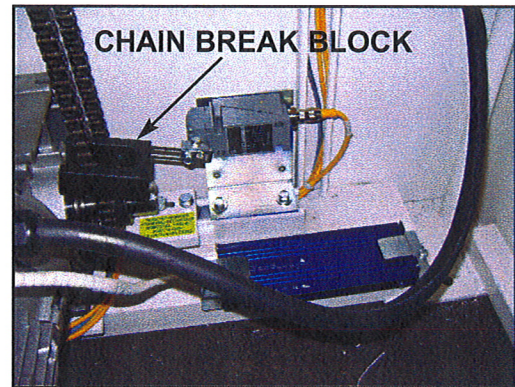
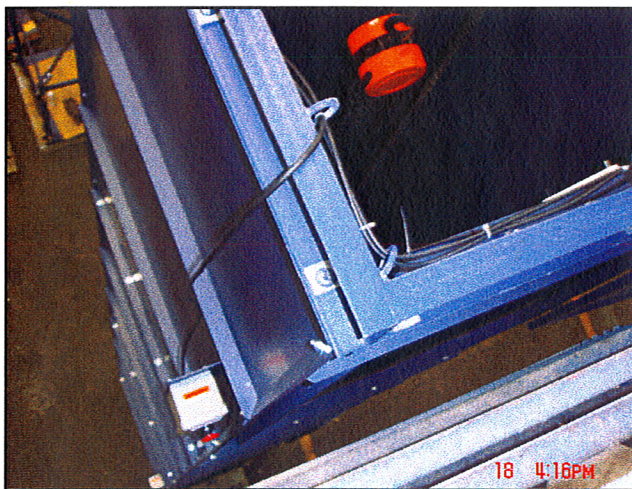
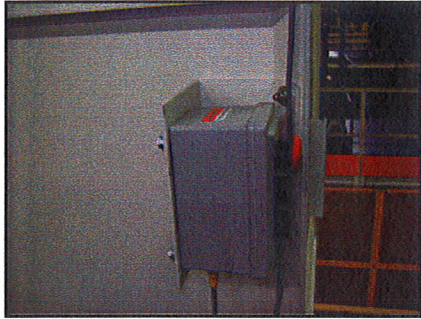

Figure 13
Figure 16
Figure 17
3. Mount push button stations if removed for shipping. See Figure 13, page 17, Figure 16, page 18, and Figure 17, page 19.
3. Make sure chain break block does not hit reducer before actuating. See Figure 13.
10. Attach push button brackets to one of the bolts holding horizontal edge of lift sides together. See Figure 17.